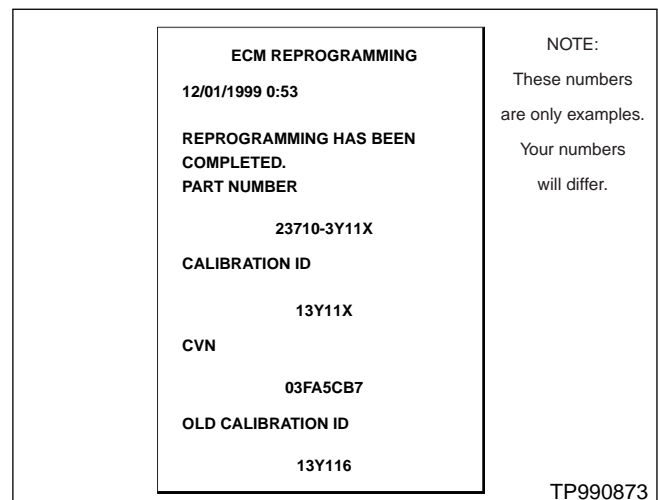

Figure 19
27. When the reprogramming is complete, CONSULT-II will "beep", turn the screen backlight back "ON" and automatically print out a report (see Figure 19).